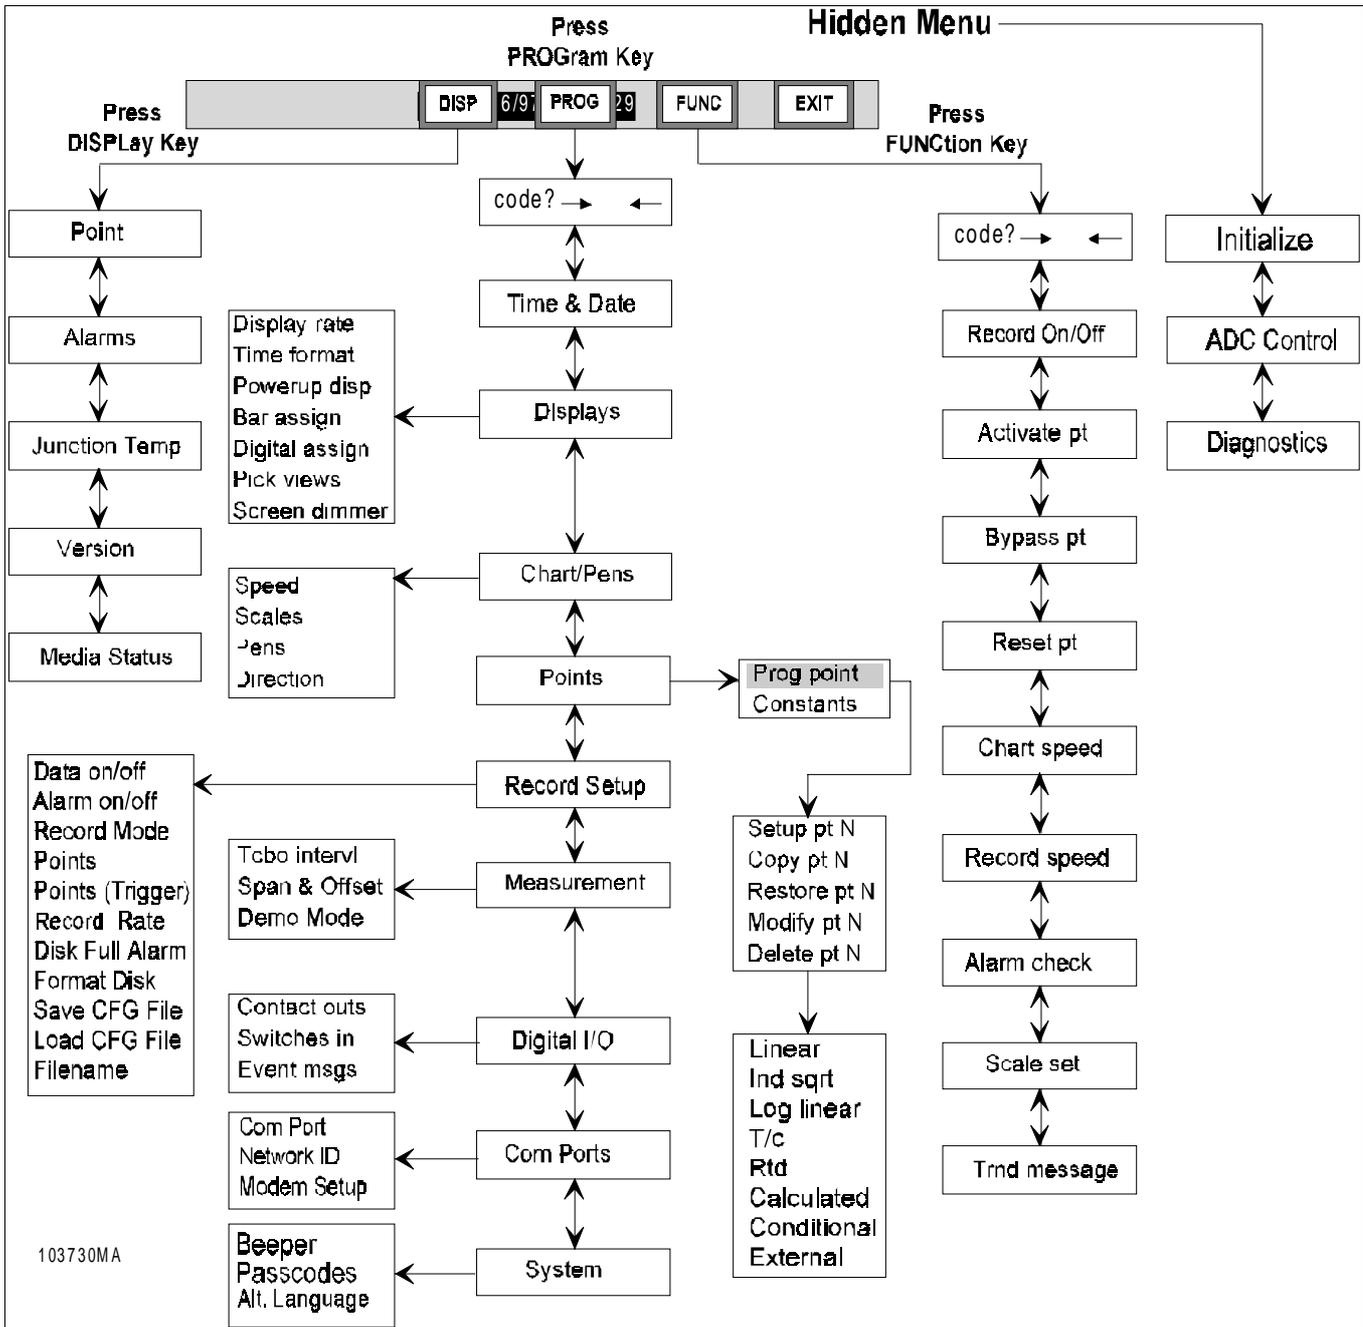

Figure 4-1 Overall Programming Flow Chart
Refer to Figure 4-1 for the overall Recorder programming and menu Flow Chart. Refer to Chapter 3 of this Manual for the Display and Function menus.
4.2.1 General. All point input programming is performed through the Program Menu shown in Figure 4-1. To enter the programming mode press the **MENU** key on the right hand side of the Display Button Bar, then press the **PROGram** button.
4.2.4 Program Menu Selections. The following explanations of the Program Menu selections are presented in menu order. Refer to Figures 4-1 and 4-3. The system allows you to establish parameters within the following menu items: